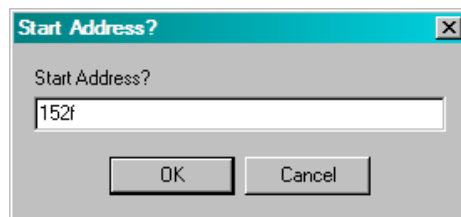

Figure 3-13. Start Address Window
5. In the Programmer Expert window, double click on UR Upload Range. The Start Address window appears as shown in Figure 3-13. Specify the start address for the NVM section. Click the OK button. The following shows the start address for each NVM sector: